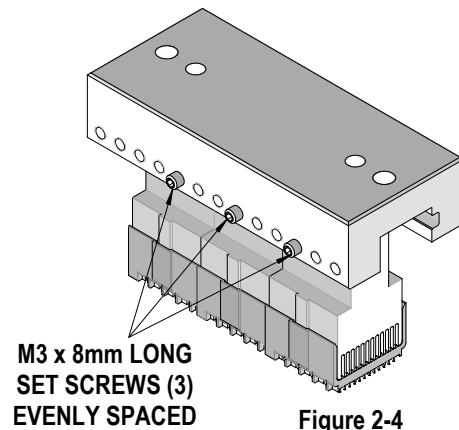

Figure 2-4
3. Tighten the M3 set screws against the modules with two (2) set screws evenly spaced on a 10mm wide insertion tool and at least three (3) set screws evenly spaced on a 25mm wide insertion tool. Figure 2-4 shows a typical completed assembly.